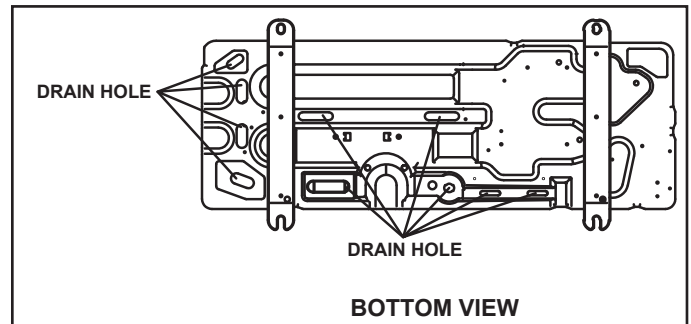

Figure 3. Factory-Provided Drains
- The bottom of the outdoor unit is equipped with multiple drain holes to route water away from the unit during a defrost cycle. Figure 3.